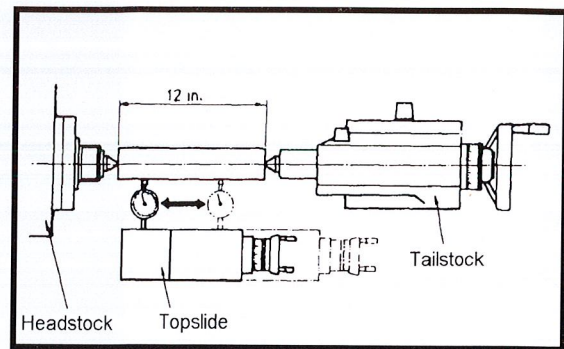

Fig. 21
1. Fit a 12" ground steel bar between centers of the headstock and tailstock (See Fig.21).